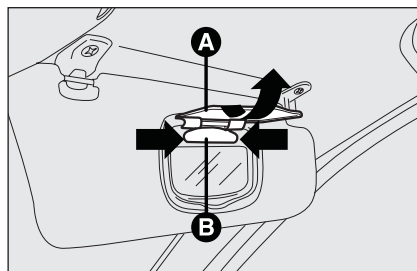

fig. 45
- ☐ open the mirror cover **A-fig. 45**;